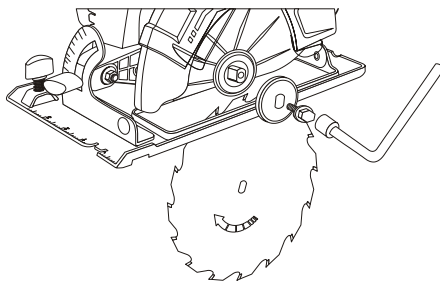

Figure 5
4. To place blade onto the motor shaft, rotate the blade guard lever forward and slide the blade through the slot in the sole plate until it fits over the motor shaft. (Figure 5).